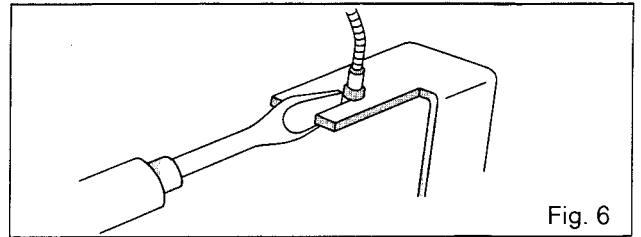

Fig. 6
- (5) Remove the shield case.
- (6) Disconnect from the lug terminal plate the five leads coming from the tone arm.
- (7) Remove the terminal angle B from the panel board.
- (8) Turn the drive gear 180° so that the return plate moves over the nut and remove the arm rest fixing nut. And pull out the arm rest.
- (9) Loosen the screw of the tone arm fixing plate boss and remove the tone arm fixing plate.
- (10) Remove the tone arm fixing nut and remove the tone arm.
- (11) Disconnect the release wire from the lifter base (Fig. 6).